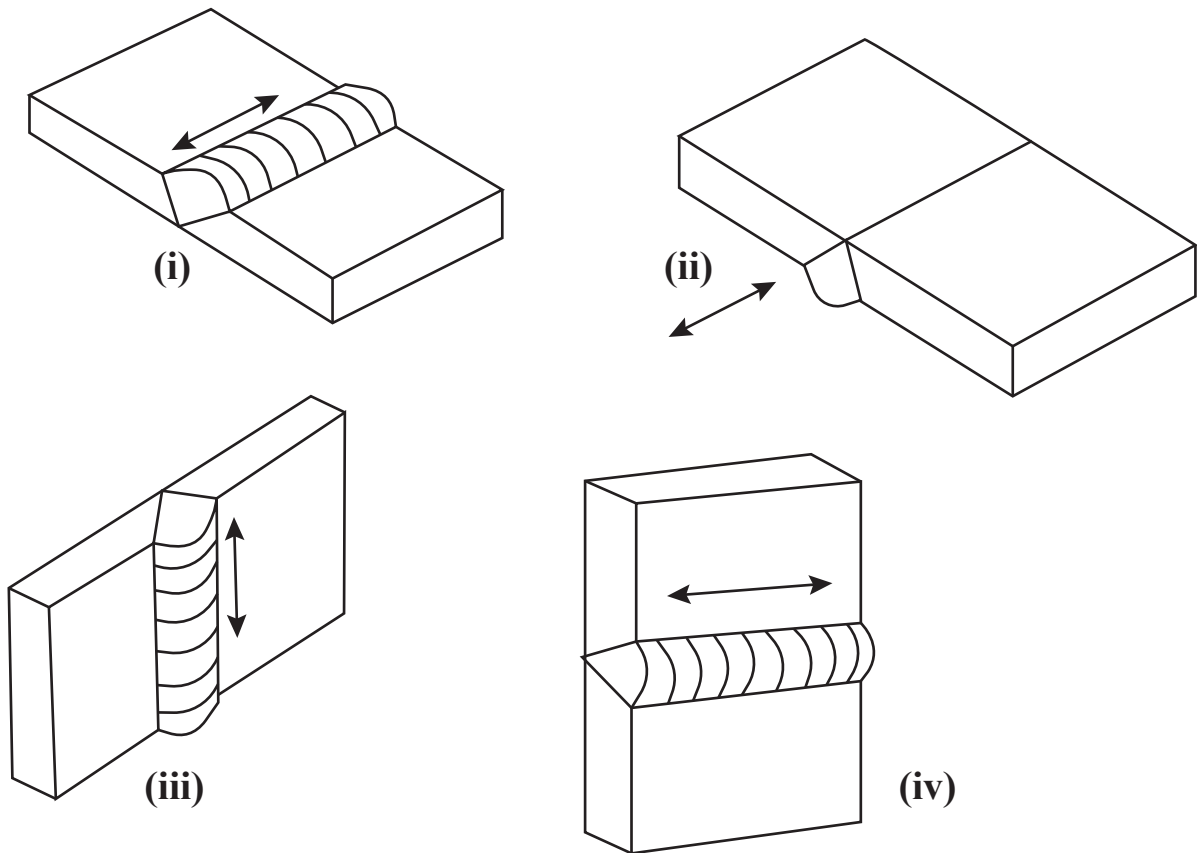

Fig.4
- (b) **Figure 4** shows the welding positions during various welding operations. Name the welding positions marked (i) to (iv). [4]